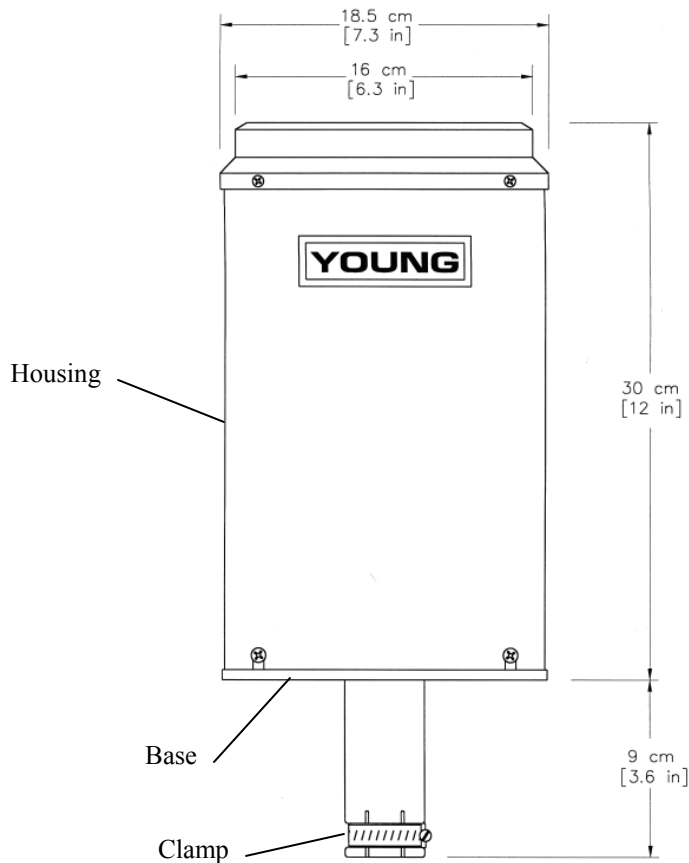

FIGURE 3-1. 52202 Precipitation Gage
The 52202 precipitation gage uses a clamp to fasten onto a user-supplied 1-in. IPS pipe (see Figure 3-1).
1. Loosen the three screws that retain housing to base assembly (see Figure 3-1). Carefully lift housing free of base.